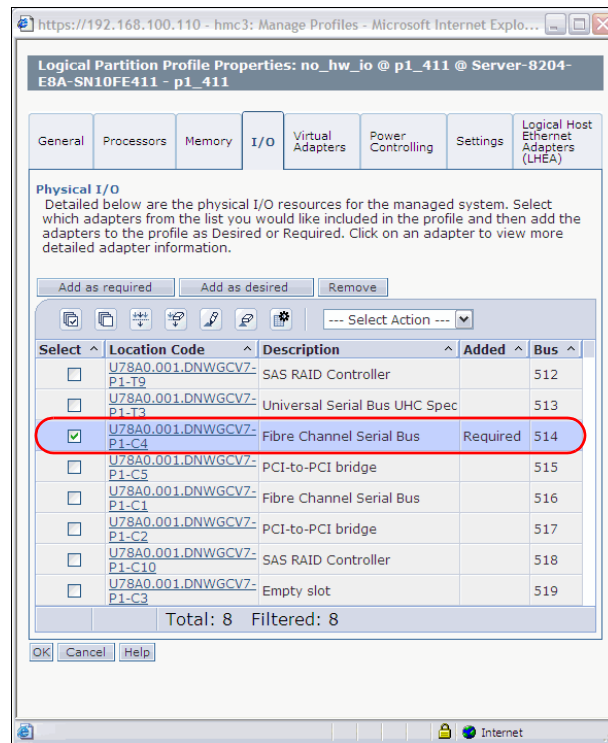

Figure 5-7 Physical Fibre Channel Adapter to remove from source partition
1. Using the hardware location code for fcs0 from the previous step, open the source partition's profile panel and locate the physical Fibre Channel adapter. In Figure 5-7, the correct Fibre Channel adapter in slot C4 has been highlighted. Remove this Fibre Channel adapter from the partition profile.